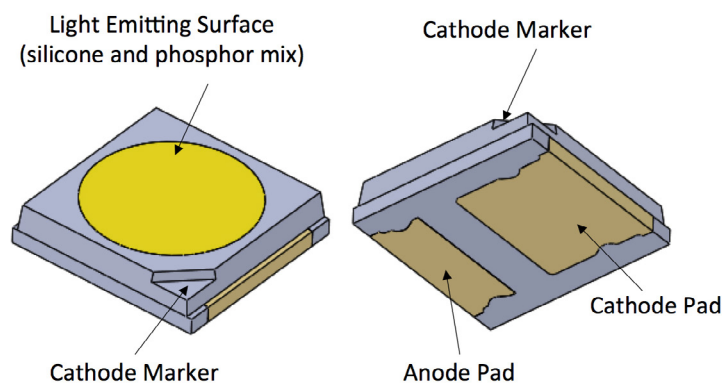

Figure 1. Package rendering of a representative LUXEON emitter.
LUXEON SunPlus 35 emitters (Figure 1) consist of a 3535 lead-frame package with an anode and a cathode. A small notch on the corner of the package marks the cathode side of the emitter package. The anode and cathode both serve as thermal pads for the emitter, with the majority of the heat being dissipated through the larger pad, corresponding to the cathode. The LUXEON emitter does not include any transient voltage suppressor (TVS) chip to protect the emitter against electrostatic discharges (ESD). Appropriate precautions should therefore be taken when handling this device (see Section 5.5).
2. The nozzle outer diameter should also not be smaller than the Light Emitting Surface (LES) diameter (Figure 1) otherwise this may allow the nozzle tip to be in full contact with the silicone-filled LES area and may cause damage to the surface or cause pick-up/release issues. Recommended outer diameter is 3.5mm. There are two LES diameters for LUXEON emitters; 2.6mm and 3.0mm. See respective datasheets for mechanical package dimensions.